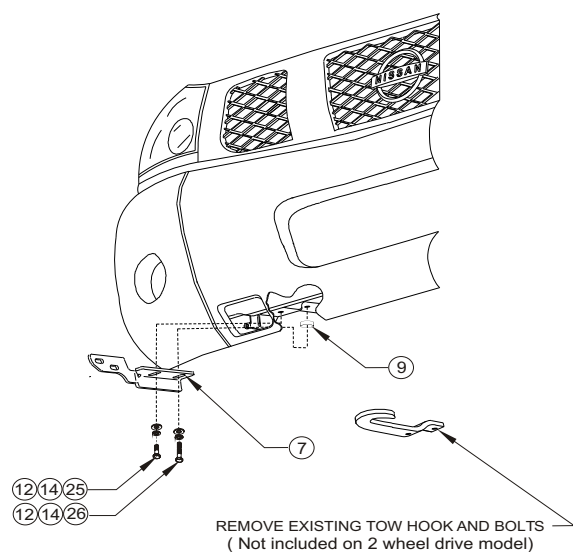

FIGURE 1
- STEP 3. Attach brackets as shown. **SEE FIGURE 1.**
- STEP 7. Attach uprights to center and bottom tubes as shown. Level and torque 1/2" fasteners to 60 FT.LBS. and 3/8" fasteners to 30 FT.LBS. **SEE FIGURE 1.** **NOTE:** If needed, Loctite® or similar thread locking product may be applied to center tube fasteners to help prevent them from loosening.
- STEP 8. Attach light mounts to center tube as shown. Torque to 20 FT.LBS. **SEE FIGURE 1.**
- STEP 9. Attach wing assemblies to top tube and uprights as shown. **SEE FIGURE 1.** Leave lower front 3/8-16 x 1.25" ss button head bolt loose. Torque all others to 30 FT.LBS.